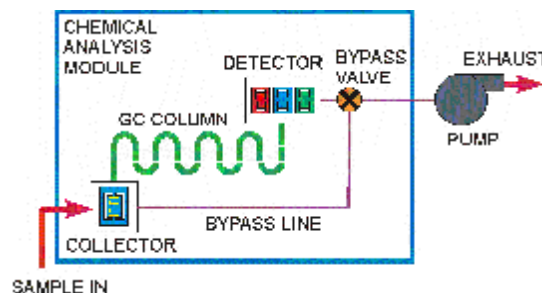

Figure 2. Canary-Two™
For greater specificity, the Canary-Two™ incorporates a micro-gas chromatograph (GC) column as shown schematically in Figure 2. A sample enters the GC in a sharp pulse, then separates into individual constituents as a result of interactions with a coating, called a stationary phase, on the column walls. As the constituents emerge from the column, they temporarily collect in the detector. The time between sample injection and emergence of the constituents from the column is used to identify the analyte. The measured weight of the sample is related to the concentration of the analyte in the gas sample.